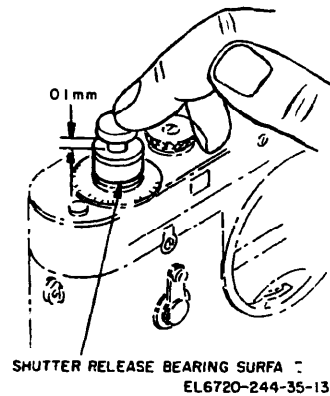

Figure 6-5. Gauge with center shaft 42-253.01-Z1L74.
*b. Test Equipment (fig 6-5).* This check requires the use of gauge with center shaft 42-253 01-Z1L74.
(1) Position the gauge on top of the shutter release screw ring.